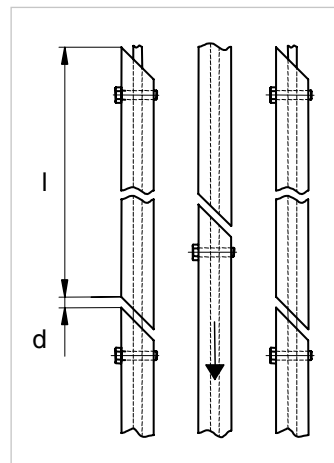

Figure 440: Version A
- A Straight or parallel wear strip arrangement (Fig. 440)** These are the most economical methods. For lower belt wear, the parallel wear strip segments may be arranged alternating offset instead of in-line or as a serpentine strip. For the number of wear strips refer to the product data sheets.